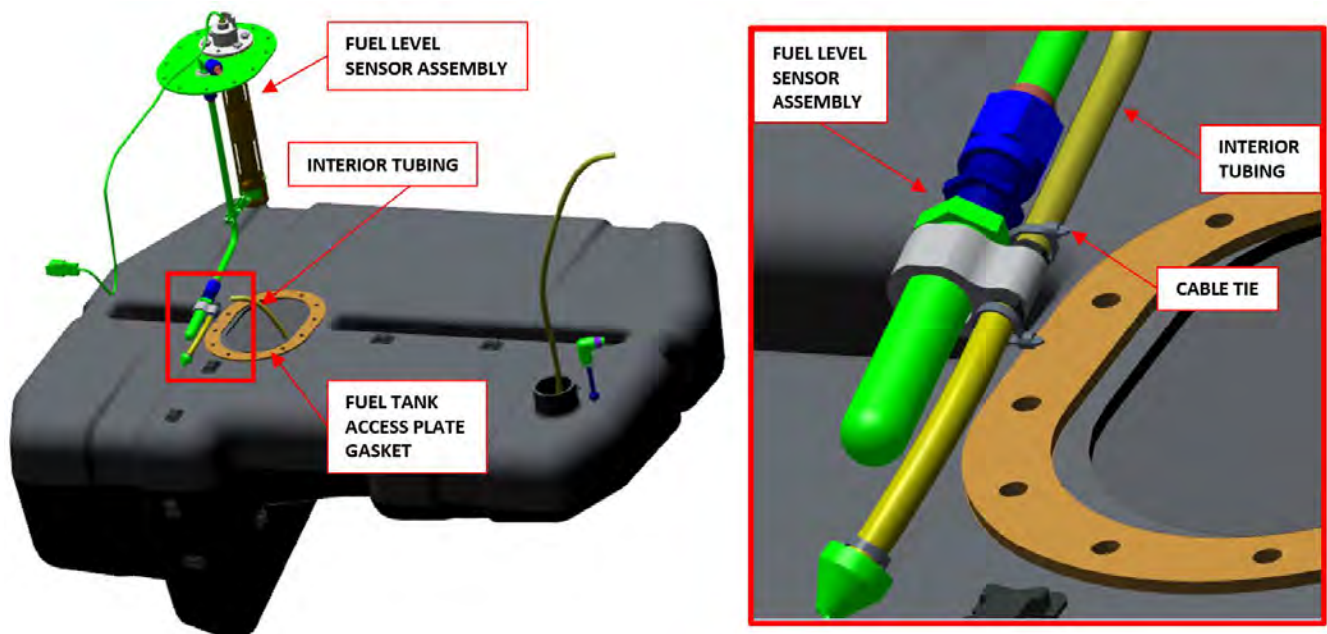

FIGURE 13-38
- c. Remove the cable tie and interior tubing from the Fuel Level Sensor assembly (Figure 13-38).
- c. Pull end of interior tubing from inside the Fuel Tank and secure to Fuel Level Sensor Assembly using 18lb CABLE-TIE. (See Figure 13-38.)